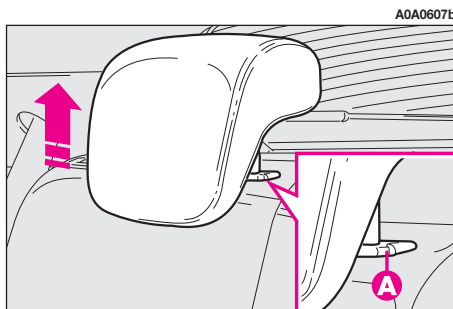

fig. 21
– raise the headrest to the highest position, press both buttons (**A-fig. 21**) at the side of the two supports, then remove the headrest pulling them upwards;
To use the headrest, raise it from the (2) “non use position” and reach the (1) “all removed” position. To restore the “non use position”, press button (A-fig. 21) and push the headrest downwards.